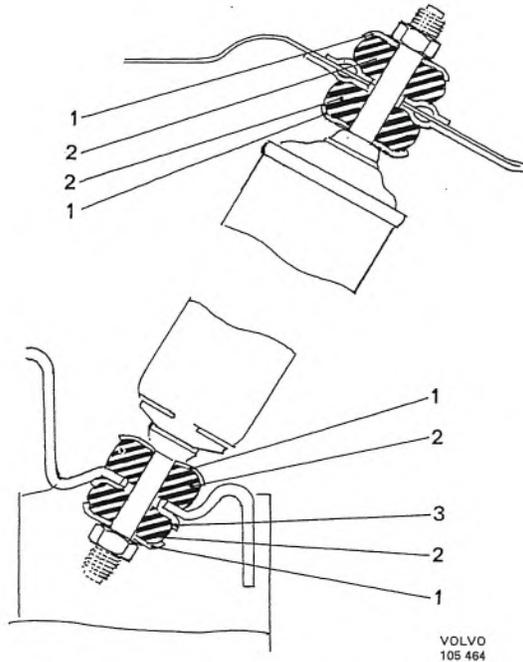

Fig. 7-7. Rear shock absorber attachment
4. When installing, place washers and rubber according to Fig. 7-7.